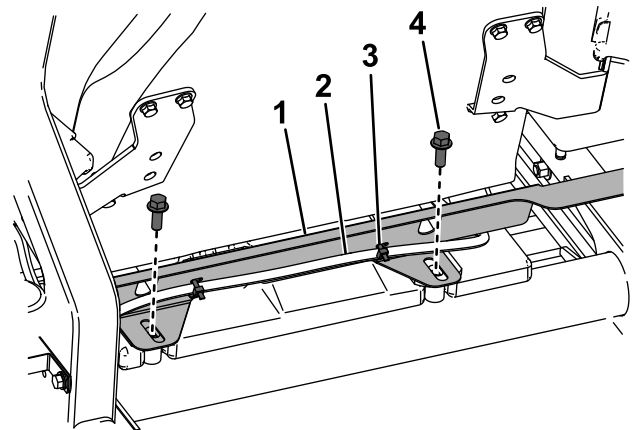

Figure 2
2. Behind the seat, cut the cable ties securing the hose to the heat shield and remove the 2 bolts (1/4 x 1/2 inch) as shown in Figure 2. Remove the heat shield and retain the bolts.